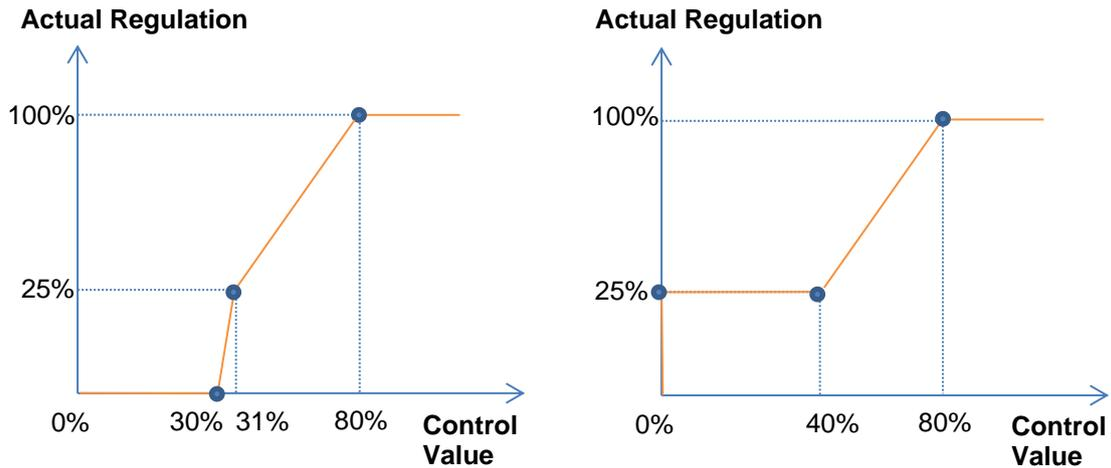
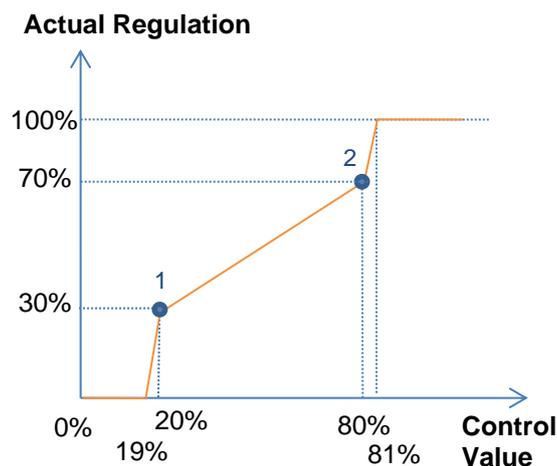

Figure 10. Custom Control Curves.
Figure 11. Characteristic Curve – Values Out of Range.
In case the first and last points do not correspond (respectively) to values 0% and 100%, the characteristic curve will be defined as follows (see Figure 10 and Figure 11):
- For **control values lower than that of the first point**, the actual regulation value will be 0%. For example, in Figure 11 all control values under 20% imply a regulation value of 0%.
- For **control values greater than that of the last point**, the actual regulation value will be 100%. For example, in Figure 11 all control values over 80% imply a regulation value of 100%.